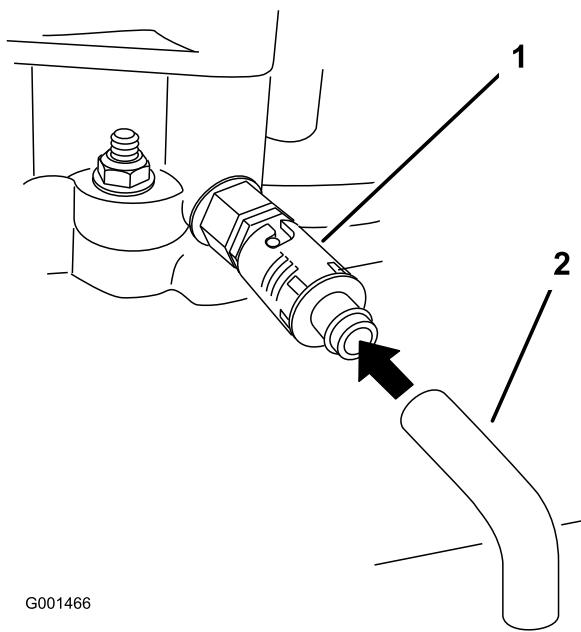

Figure 35
8. Remove the drain hose (Figure 35).
6. Place a pan below the drain hose. Rotate oil drain valve to allow oil to drain (Figure 35).